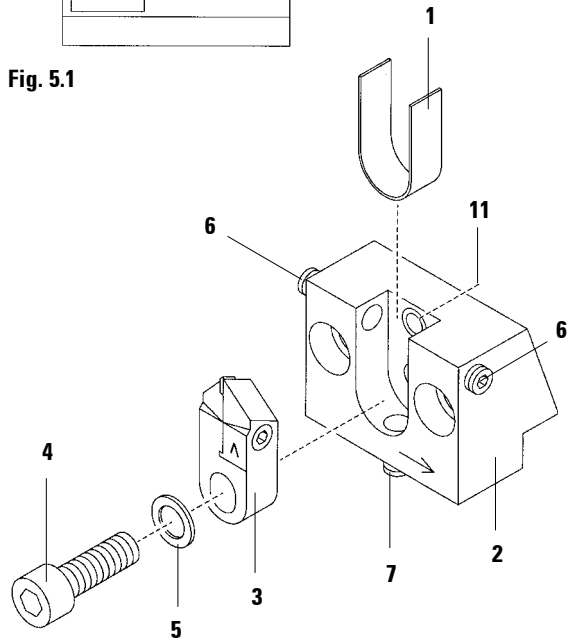

Fig. 5.2
**Do not tighten screws (6) too much. If screws (6) are too tight, screw (7, Fig. 5.2) (for adjustment along the y-axis) can no longer be moved.**
Do not tighten screws (4, 11) too much. If screws (4, 11) are too tight, screw (7, Fig. 5.2) (for adjustment along the y-axis) can no longer be moved.